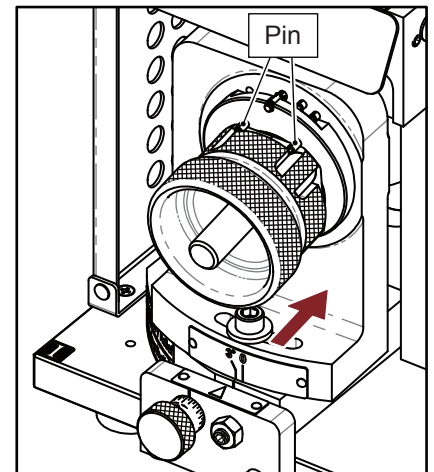

Fig. 12-1
#### 1. 4 Flute Secondary Relief Grinding (I) (Fig. 12-1)
- ① Insert the Chuck set into Shelf (I), align Slot No.1 of the clamping nut with the two pins on the shelf, gently push the Chuck set until the grinding noise stops.
- ② Take the Chuck set out, turn it to grind the Slot No.2, Slot No.3 and Slot No.4 in the same way.